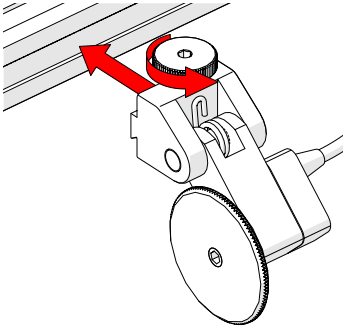

Fig. 75 - Attach to frame bar
1. Loosen the encoder's dovetail jaw and mount it to the frame bar (Fig. 75).